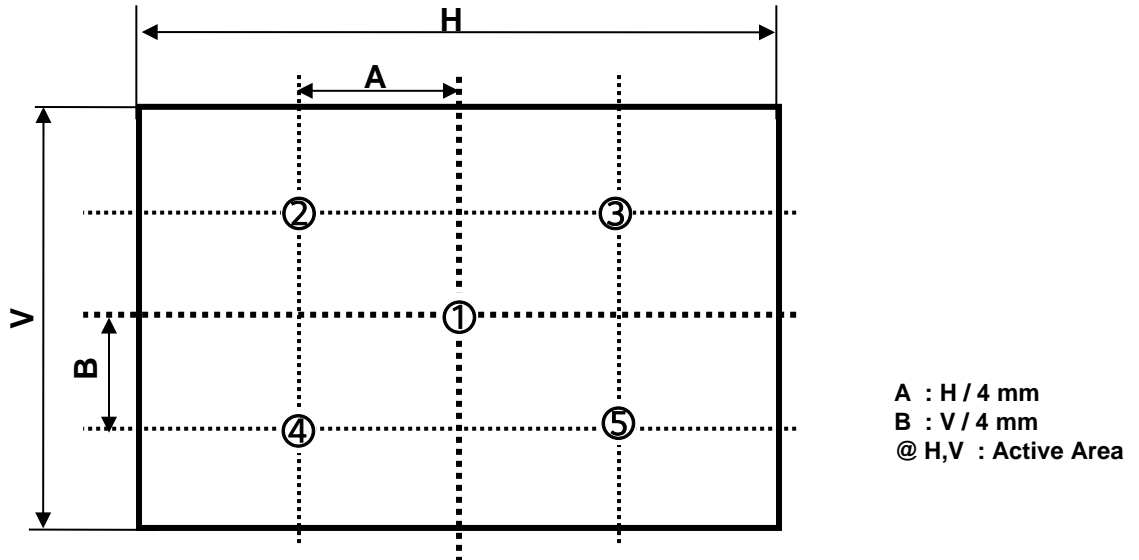

FIG. 2-1 5 Points for Contrast Ratio Measure
n = the Position number(1, 2, 3, 4, 5). For more information, see FIG 2-1.
2.Optical Characteristics is determined after the unit has been 'ON' and 1 Hour after lighting the backlight in a dark environment at $25 \pm 2^\circ\text{C}$. Surface luminance is the luminance value at center 1-point across the LCD surface 50cm from the surface with all pixels displaying white. For more information see the FIG. 2-1.